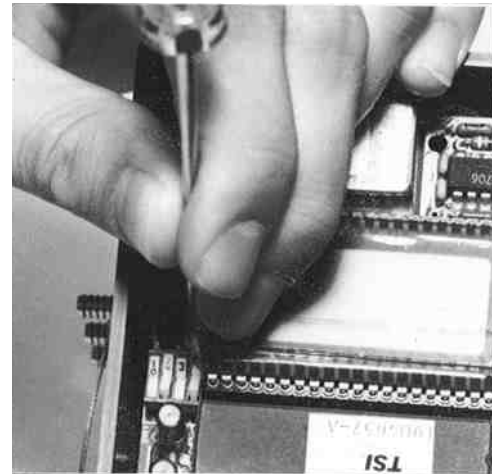

Figure IV-3. Setting the DIP switches
Step 3. Set the DIP switches to the desired pass/fail level. Table 3 gives the settings for the different levels (fig. IV-3).